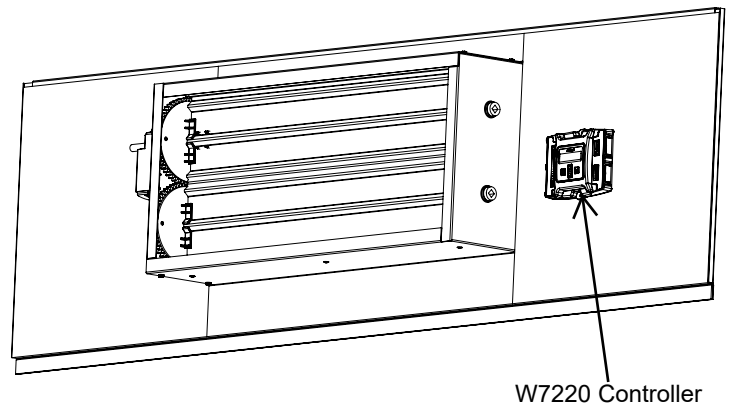

**Fig. 1 Upper and Bottom Panel on End of Unit**
3. Remove the upper panel (provided with the HVAC unit) on the end of the unit to expose part of the return section. (See Fig. 1.) Save the screws for use later when replacing the panel. The panel can be discarded.